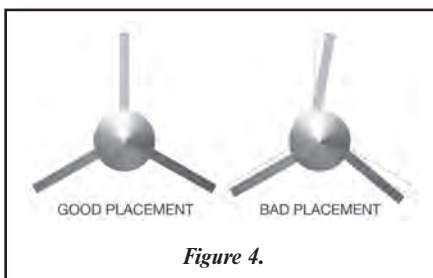

Figure 4.
b. It is especially important to make sure the fins are all the same size and are aligned parallel to the tube and are equally spaced around the body tube. See Figure 4. One crookedly mounted fin can cause a rocket to fly radically off course. Skilled model rocket builders often use a fixture to hold the fins in perfect alignment while they are being glued to the body tube.